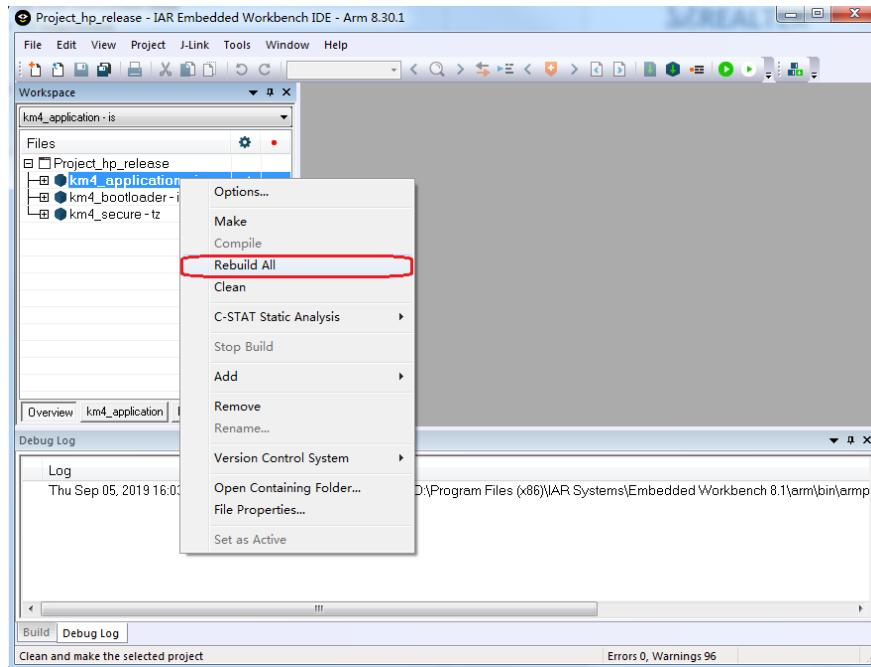

Fig 6-10 Building KM4 project
- (4) Right click the project and choose “Rebuild All”, as Fig 6-10 shows. The km4\_bootloader, km4\_secure and km4\_application should compile in order.